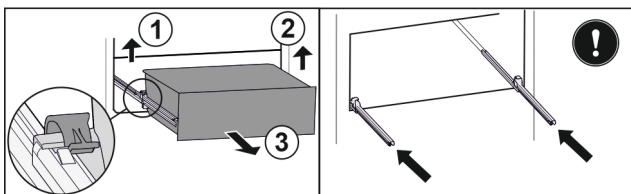

Fig. 79
- ▶ Lift left clamp and simultaneously pull drawer forwards on the left. Fig. 79 (1)
- ▶ Lift right clamp and simultaneously pull drawer forwards on the right. Fig. 79 (2)
- ▶ Remove drawer to the front. Fig. 79 (3)